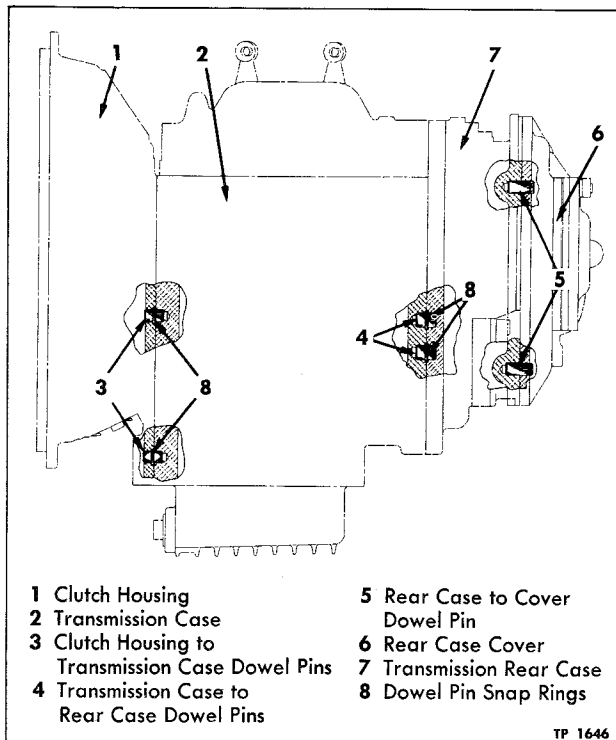

Figure 8—Transmission Case Dowel Pins
Clutch housing and transmission angle drive case are held in proper alignment with transmission main case by dowel pins (fig. 8). Two dowels (3) are used at front of main case and two (4) are used at rear of the main case. Angle drive case cover (6) which supports mainshaft rear bearing is also dowelled onto angle drive case.
3. Remove stud nuts and separate the two cases; then add counterbore in angle drive case to accommodate oversize dowel pin snap rings (8, fig. 8).